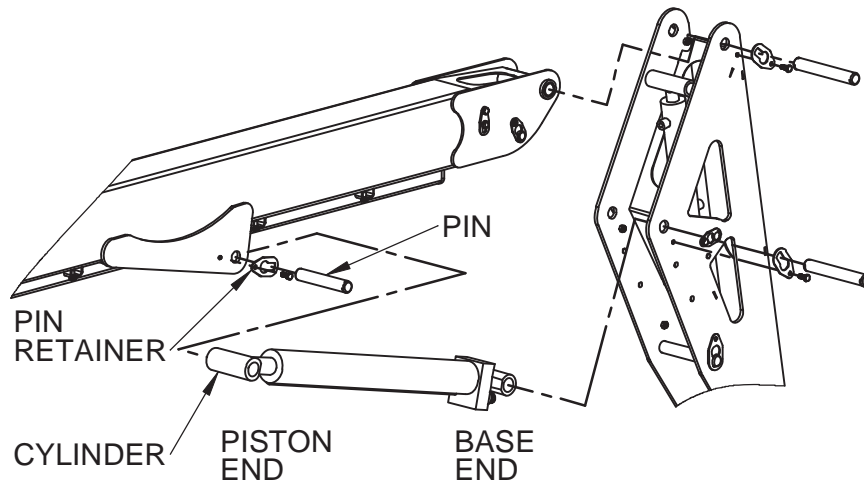

**Figure 5-3. Location of Manual Lowering Valves**
3522A / HTA 13 P Aerial Work Platforms have three (3) lift cylinders, use the following procedure to remove and replace faulty or damaged hydraulic cylinders. Refer to Figure 5-3 for the location of these cylinders.